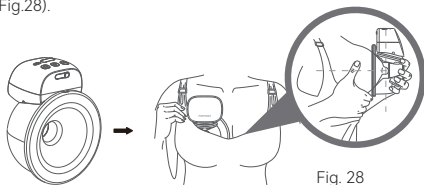

Fig. 28
a. Before pumping, please make sure the pump is pressed tightly on your breast without a gap (Fig.28).